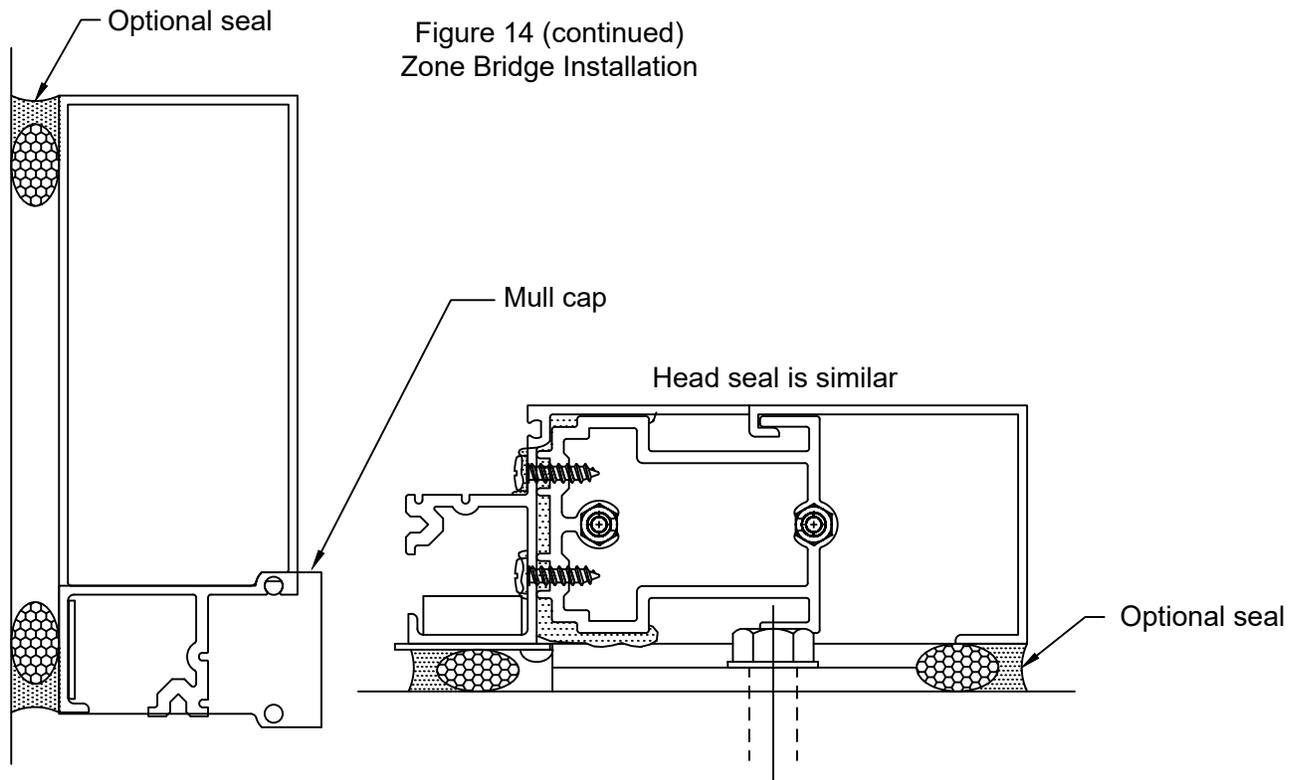

Figure 15
- 2.6 When all framing members are installed, apply the perimeter seal. SEE FIGURE 15, page 22. The interior perimeter seal is not required for system performance, but can be installed for cosmetic purposes. Perimeter sealing must be completed prior to glazing.